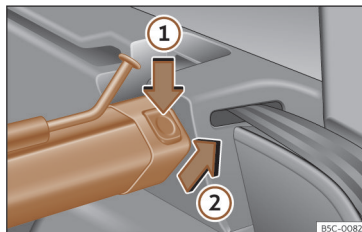

Fig. 135 In the luggage compartment: removing the net partition.
- Press the left or right release catch »» Fig. 135 in the direction of the arrow ①.
- Remove the casing from the support in the direction of the arrow»» Fig. 135 ②.
- Press the casing into the left and right supports in the opposite direction to the arrow »» Fig. 135 ② until it engages.